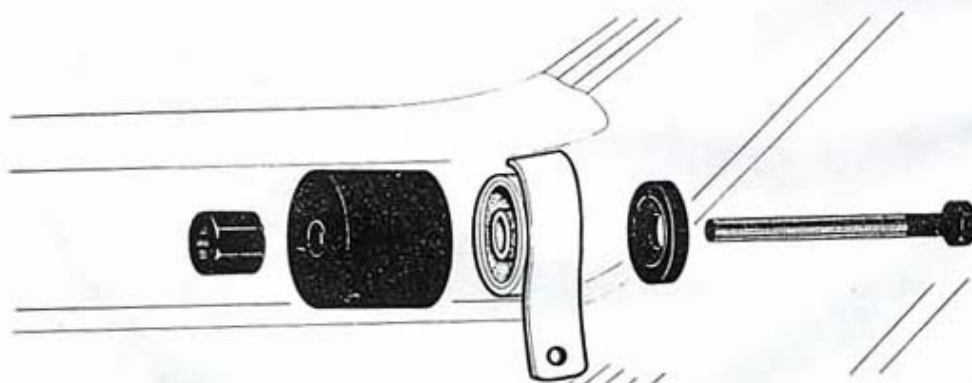

Fig. 1 - Location of parts for bushing removal
- For removing or fitting operations, the flexible bushes will be removed or fitted from front to rear of the machine (fig. 1 and fig. 2).